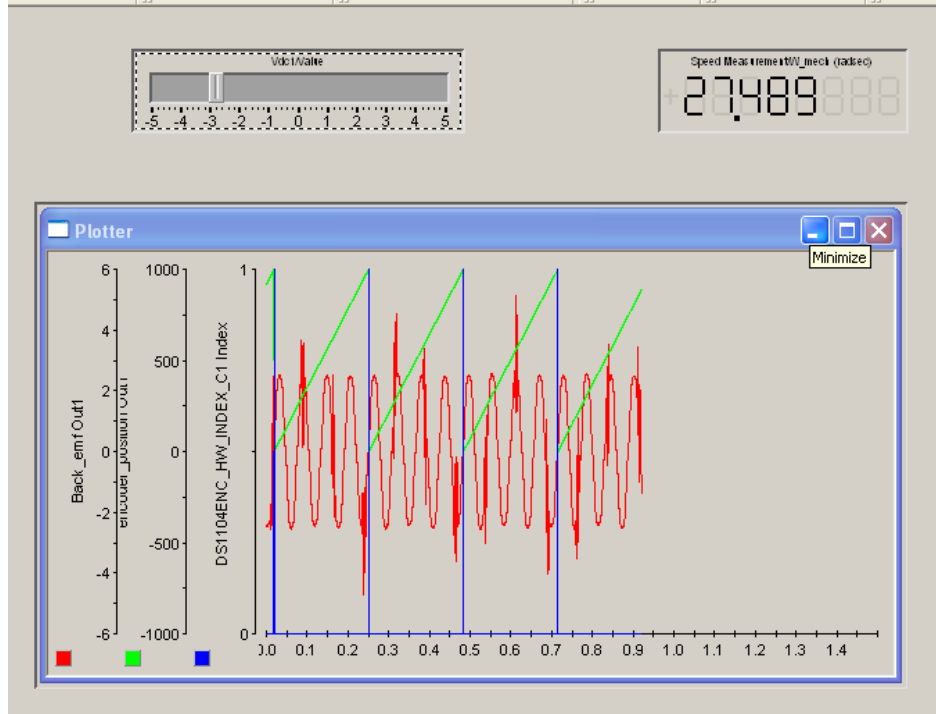

Figure 7.3: Screen Shot of ControlDesk
- For example see the screen shot in Fig 7.3 where the length has been set to 1.5 in the capture setting window.